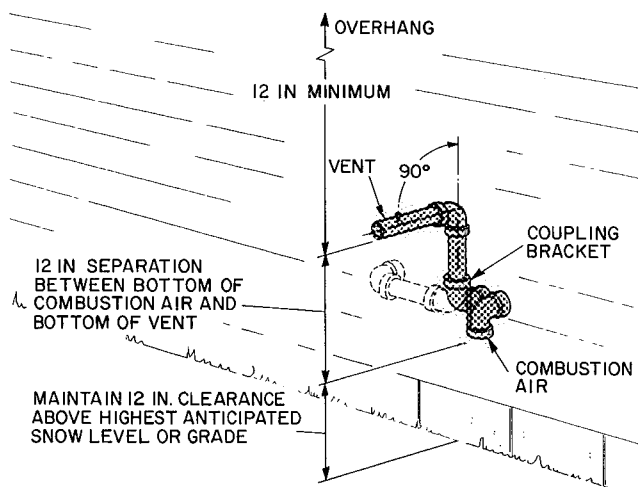

**Fig. 3 — Sidewall Vent Terminal Installation
NOTE: The solid-line arrangement in Fig. 3 is preferred. The dashed-line arrangement is an option for the vent pipe only.
3. Install elbows as shown in Fig. 3. Clean them and apply cement using procedures described in Combustion-Air and Vent Piping.
4. Install bracket as shown in Fig. 3.
5. Position vent-pipe assembly, maintaining a 12-in. separation. Cement vent pipe in elbow as shown in Fig. 3.
6. For applications using vent-pipe option (indicated by dashed lines in Fig. 3), rotate elbow 90° from position shown.